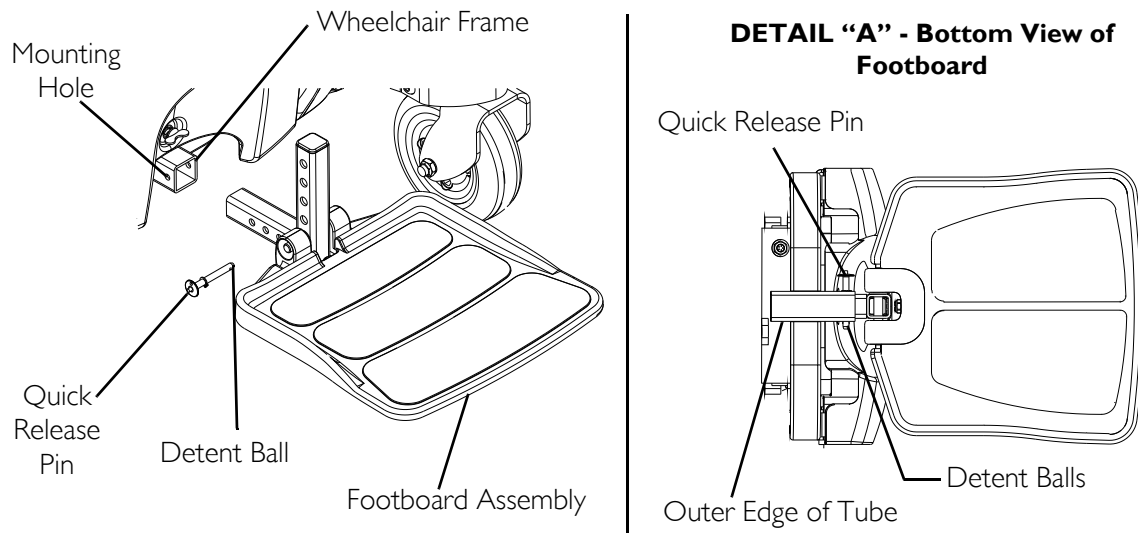

FIGURE 7.1 Removing/Installing the Footboard Assembly
NOTE: For this procedure, refer to FIGURE 7.1 on page 81.
2. Install the quick release pin by depressing the button while sliding the pin in. Ensure that the detent balls of the quick release pin are fully released and protruding past the outer edge of the tube (Detail "A" of FIGURE 7.1).